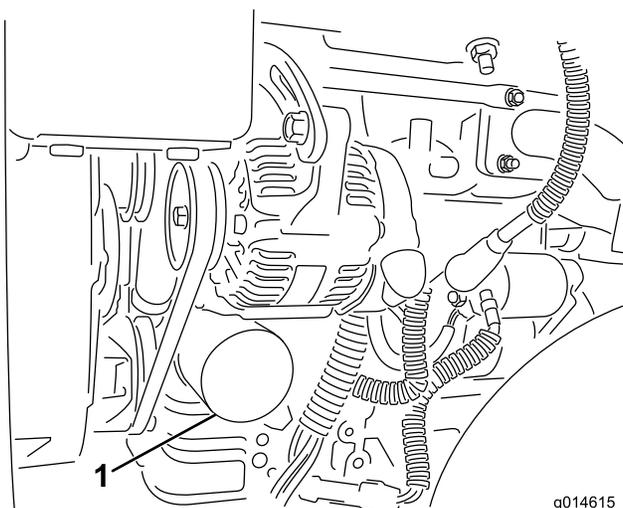

Figure 46
- Remove the oil filter (Figure 46). Apply a light coat of clean oil to the new filter gasket.